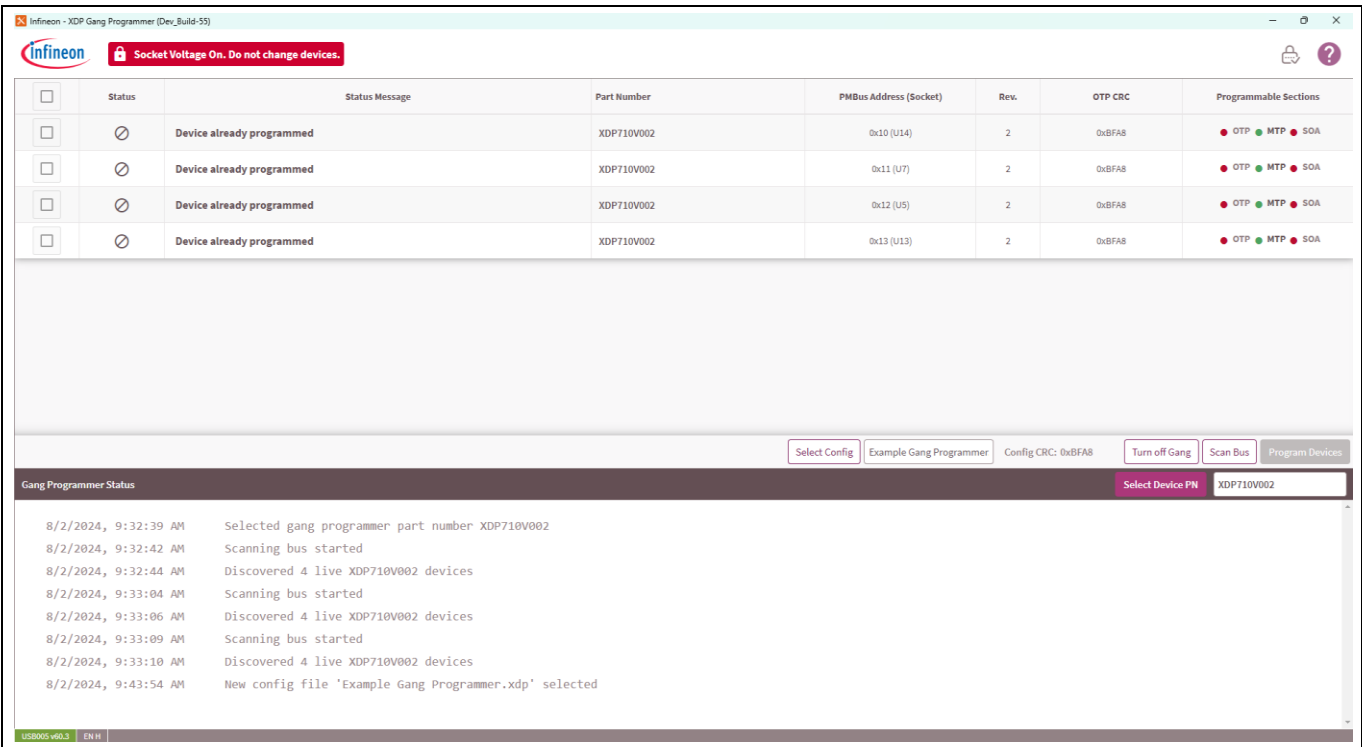

**Figure 31 Successful programming of all four devices indicated by green LED**
- The red LED is off indicating that it is safe to replace the devices as shown in Figure 31.